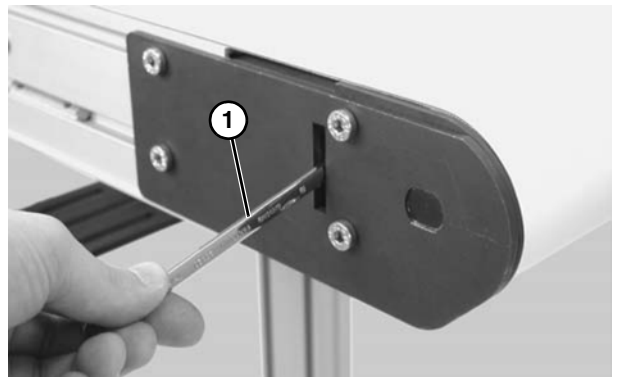
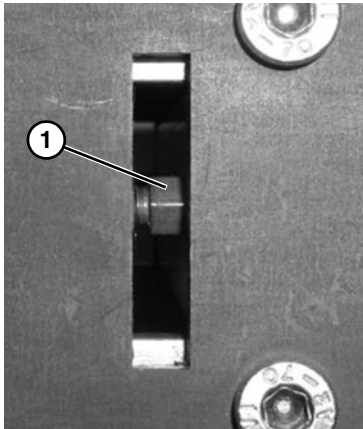

Figure 37
Figure 38
4. With the conveyor running, use wrench (**Figure 37, item 1**) to rotate the tracking screw (**Figure 38, item 1**) in small increments until the belt tracks in the center of the conveyor.